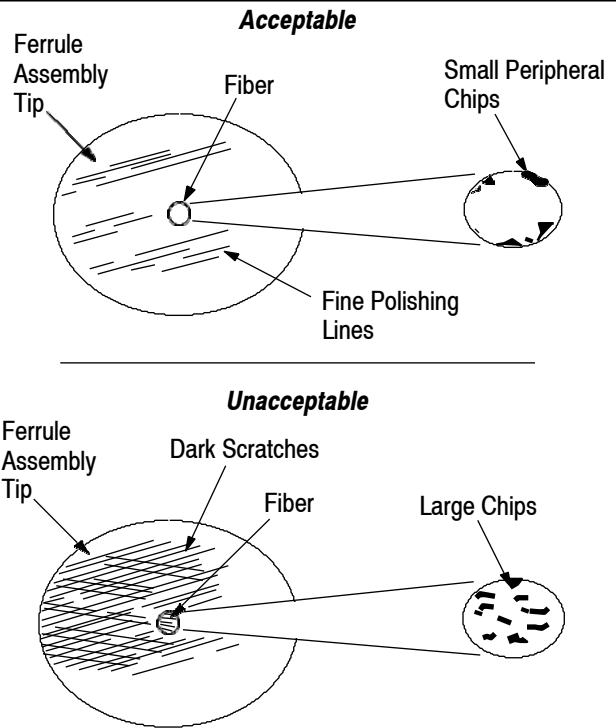

Figure 10
1. Using the microscope, inspect each ferrule assembly and fiber according to the following criteria (refer to Figure 10):